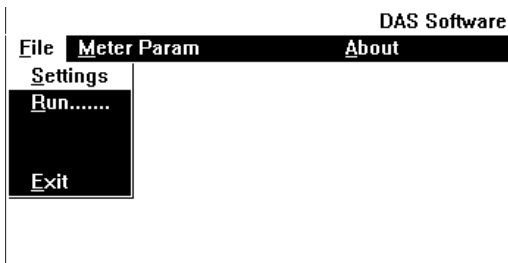

Figure 27
1. Click on FILE and select SETTINGS (**Figure 27**).